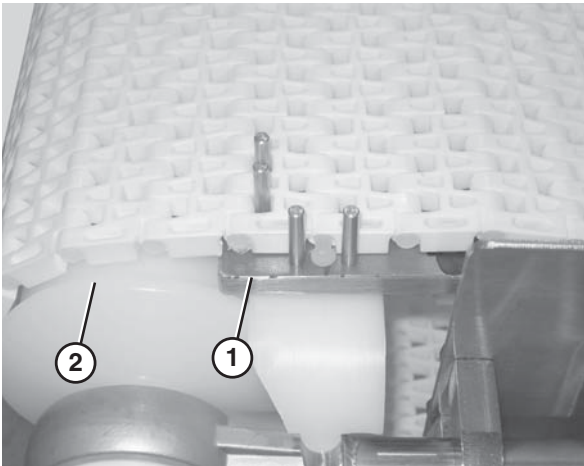

Figure 47
2. Secure the retaining head side of the belt. Use the belt removal tool (**Figure 47, item 1**) for 1" pitch belts. For all other belts, position the section of belt so that it is braced by the flanged puck (**Figure 47, item 2**).